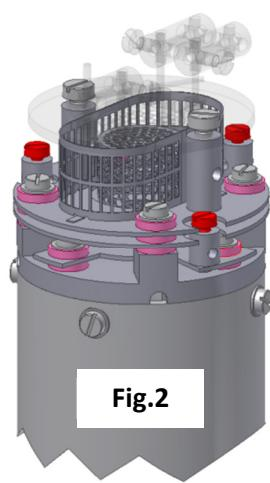

Fig.2
4. Loosen the three M2 x4 highlighted in red that secure the three insulated wires that run from the analyser flange assembly to the Source, Repeller and Extractor plates and slightly bend the wires out of the way, see Fig.2.
4. Loosen the three M2 x3 set screws highlighted in red that secure the three insulated wires that run from the analyser flange assembly to the source, repeller and extractor plates and slightly bend the wires out of the way, see Fig.2.